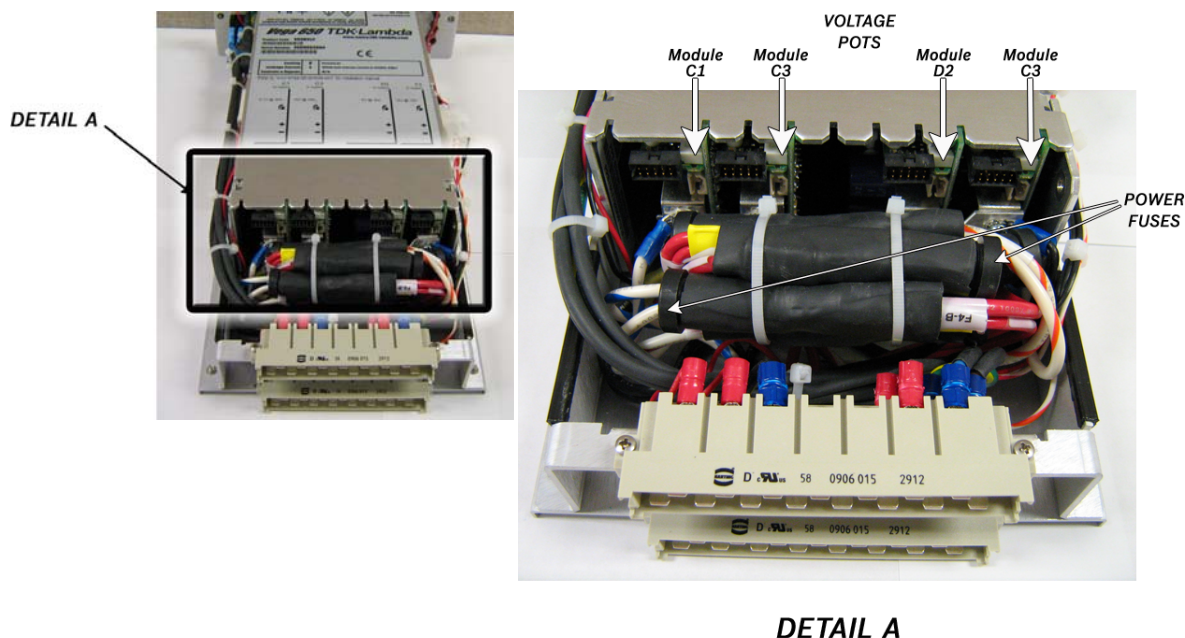

FIGURE 32. ADAM Power Supply — Adjustment Pots and Power Fuses
**NOTE:** The adjustment pots for each of the voltage cells correspond to their position in relation to the top of the unit, see Figure 32, Detail A.